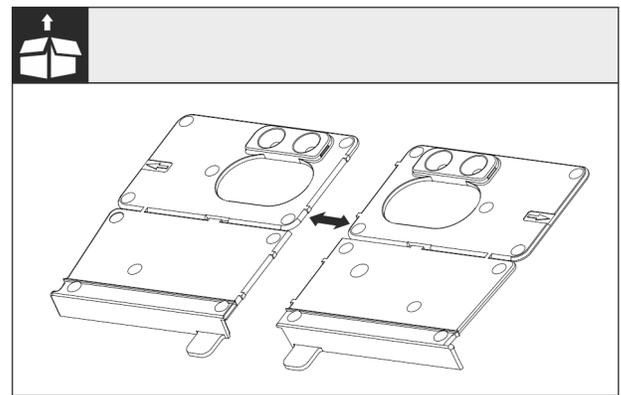

Fig. 21
- ▶ Separate the floor mounting bracket Fig. 21 () at the perforation.